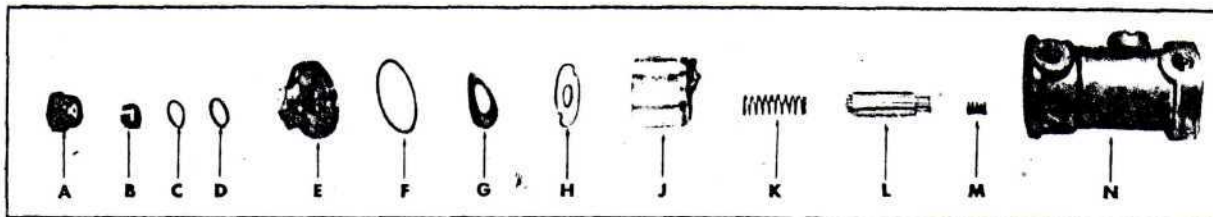

FIGURE 3
2. Using Tool No. T-281843 remove coil base (E, Figure 3) by turning counter-clockwise. Washer (C, Figure 3) will fall out.
3. Remove "O" ring from center opening of coil base (D, Figure 3).
4. Remove coil tension washer (G, Figure 3).
5. Gently tap pump body on flat surface. Coil and gasket (F & J, Figure 3) will fall out.